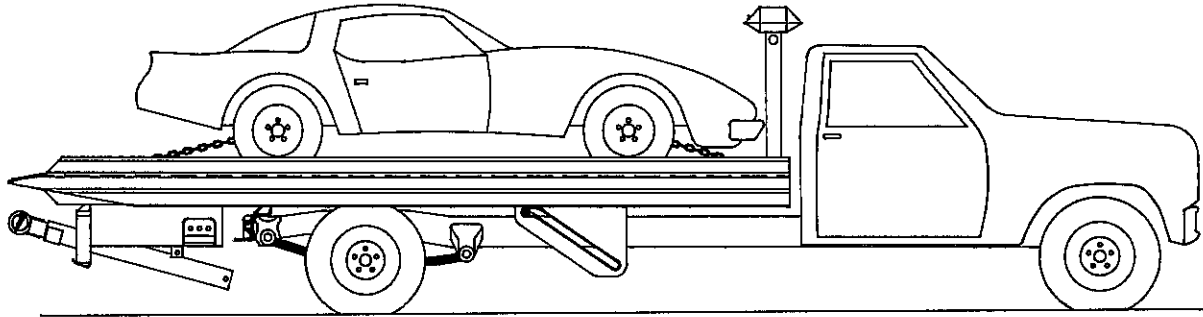

Figure 6-1.10
- 6-1.10 Tilt the bed down to the level, transport position. If the bed is not all the way forward due to step 9 exception, then slide the bed all the way forward. (See fig. 6-1.10)